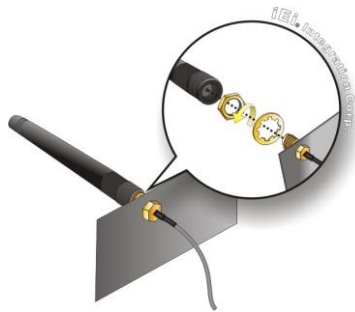

Figure 3-8: Securing SMA Connector and External Antenna Installation
Step 9: Install the external antenna (Figure 3-8).